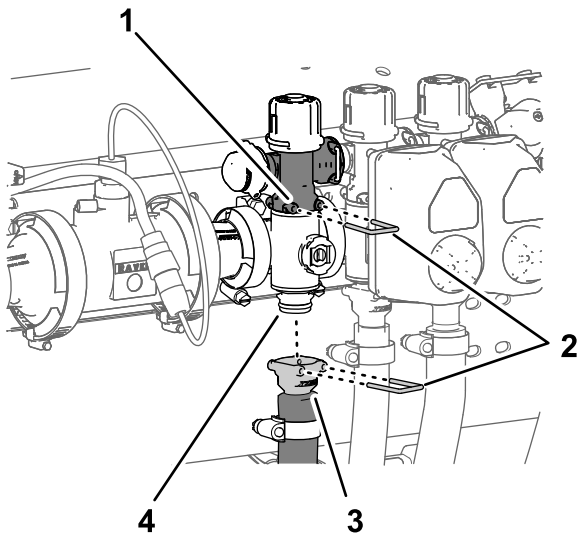

Figure 133
3. Assemble the quick-connect fitting of the section-valve manifold to the quick-disconnect socket of the section-bypass valve with a quick-connect pin (Figure 132 and Figure 133).
8. Assemble the quick-connect coupler of the section hose onto the quick-connect fitting of the section-valve manifold with the quick-connect pin (Figure 133).